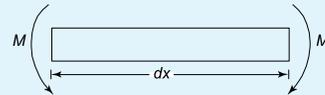

Figure 9.9
1. A cantilever of solid circular cross-section is subjected to a concentrated load of 30 N at its free end, as shown in Figure 9.9. If the diameter of the cantilever is 10 mm, determine the maximum stress in the cantilever.
2. If the cantilever of Figure 9.9 were replaced with a tube of the same external diameter, but of wall thickness 2 mm, what would be the maximum stress due to the load shown in Figure 9.9? [421 MPa]